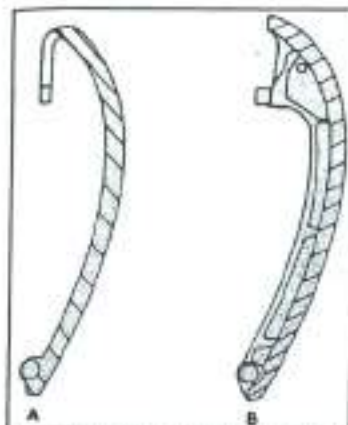
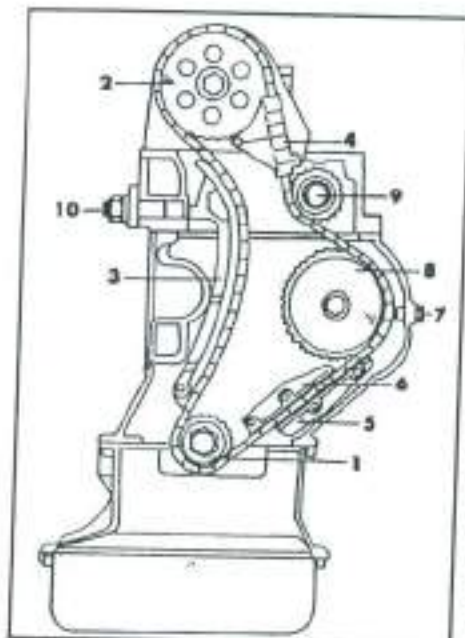
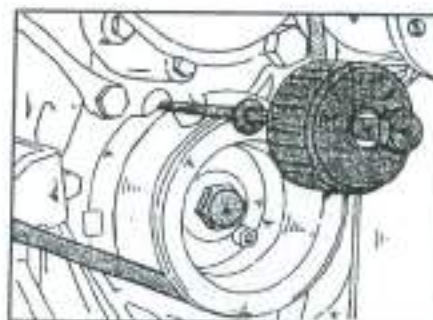

Fig. 9.21 - View of the tensioning rail. "A" shows the earlier version, "B" the later version.
Fig. 9.22 - View of the timing mechanism.
Fig. 9.24 - Removal of the bearing bolt for the tensioning rail, using an impact hammer and a threaded adaptor.
- Depending on the shape of the tensioning rail, treat the chain tensioner as follows: If the tensioning rail has the shape "A" in Fig. 9.21, remove the chain tensioner completely; if the tensioning rail has the shape "B", slacken the thrust bolt of the chain tensioner. Section 9.2.2 gives further details of these operations.
Refit the chain tensioner as follows. Fig. 9.22 shows where the tensioner is located, together with other parts of the timing mechanism.
Fig. 9.22 shows the Arrangement of the timing chain. The following operations can be carried out by referring to this illustration. Note the following points before commencing any operation:
The location of the tensioning rail can be taken from Fig. 9.22. As already mentioned, one of two types of tensioning rails can be fitted. The second tensioning rail "B" in Fig. 9.21 can be used in place of the older type, if the rail is replaced. The new tensioning rails are marked to prevent interchanging them between a 4-cylinder and 5-cylinder engine. The rail for the engine fitted is not drilled at the top, as can be seen in Fig. 9.21, view "B". It is also wider.
- If the engine is fitted with the later-type tensioning rail (view "B", Fig. 9.21), push back the thrust bolt of the chain tensioner.
- Fit the slide hammer with a suitable threaded adaptor into the end of the bearing bolt and withdraw the bearing bolt by hitting the weight of the slide hammer against its stop (Fig. 9.24). Remove the tensioning rail towards the top.
The position of the slide rails is shown in Fig. 9.22. To remove a slide rail, a slide hammer with a suitable, threaded adaptor is required, to remove the bearing bolts. The bolt is screwed into the end of the bearing bolt and the impact hammer (slide hammer) attached to the end of the bolt (Fig. 9.24). Provided that these tools can be obtained, the rails can be removed as described below. Remove the slide rail (4) in Fig. 9.22 as follows:
withdraw the slide rail towards the top, after the bearing bolt, has once more been withdrawn with the slide hammer, similar as shown in Fig. 9.24.
Replace the slide rail (6) in Fig. 9.22 as follows:
Replace the slide rail (5) in Fig. 9.22 as follows: